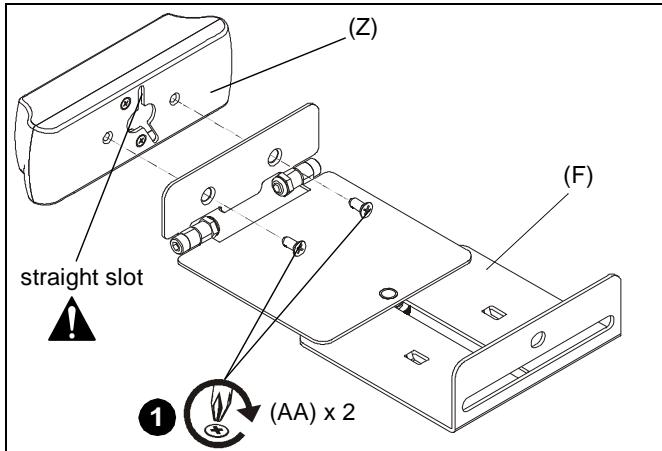

Figure 1
1. Attach camera housing (Z) to camera mount (F) using two #8-32 x 3/8" Phillips flat head machine screws (AA). (See Figure 1)
**IMPORTANT ! :** Make sure straight slot on camera housing is pointing in the proper direction. (See Figure 1)